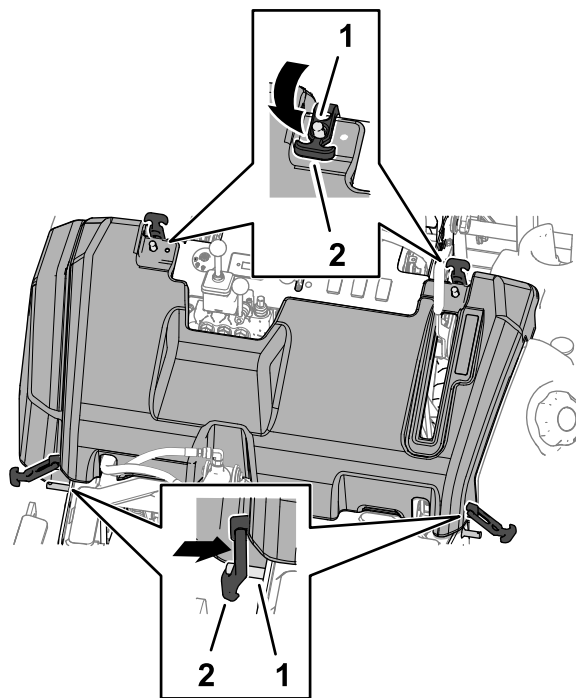

Figure 66
2. Pull the latches over the 4 latch pins to secure the hood (Figure 66).